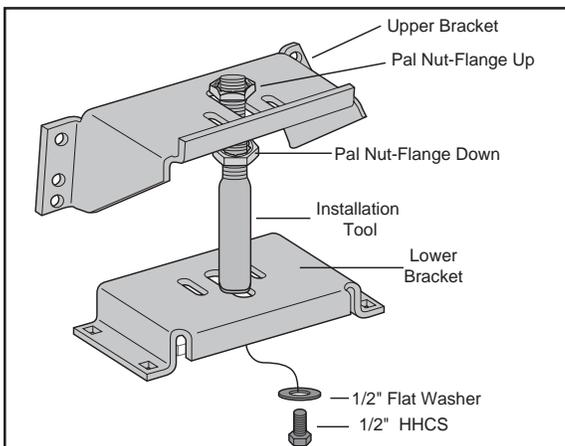

Figure 3
3. Assemble the upper and lower bracket to the alignment tool. This tool is designed to help you properly install the kit for correct height and alignment. The range of adjustment to attain the correct mounted height is determined by the upper threaded section of the tool. The kit may be mounted anywhere in that range (Figure 3).
4. Place the upper bracket “legs down” onto the threaded end of the tool resting on the bottom Pal nut. Then thread a second Pal nut (flange up) onto the tool to hold the bracket in place. Leave loose for later adjustment. (Figure 3).
5. Use the 1/2" x 7/8" hex head bolt and flat washer to attach the lower bracket to the bottom of the installation tool with the open edge of the lower bracket toward the legs of the upper bracket. Leave loose enough to adjust in and out (Figure 3).